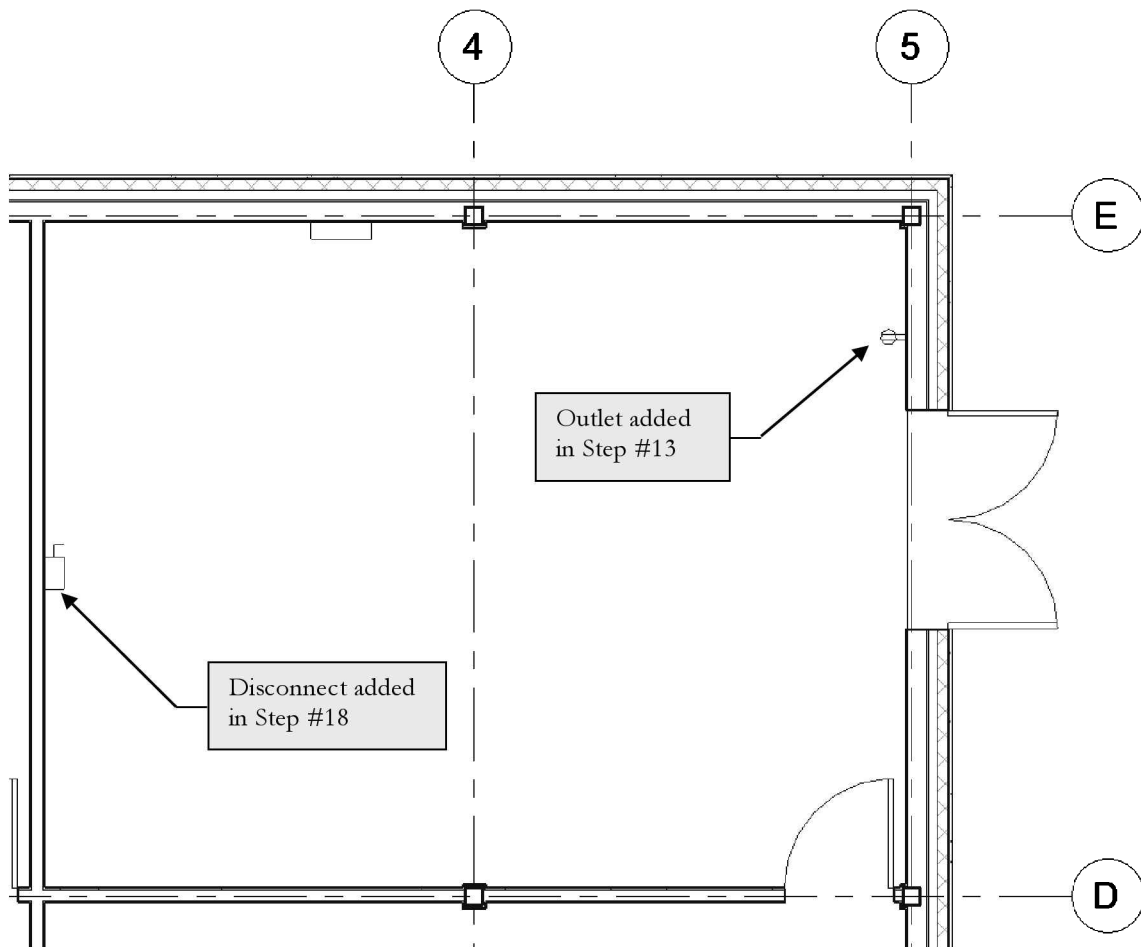

FIGURE 14-3.4 Placing an electrical fixture
13. Click to place an outlet on the East wall, as shown in Figure 14-3.4.
18. Using the *Electrical Equipment* tool, place *Combination Starter - Disconnect Switches: 208V – Size 1* family on the West wall of the Mechanical/Electrical Room (Figure 14-3.4).